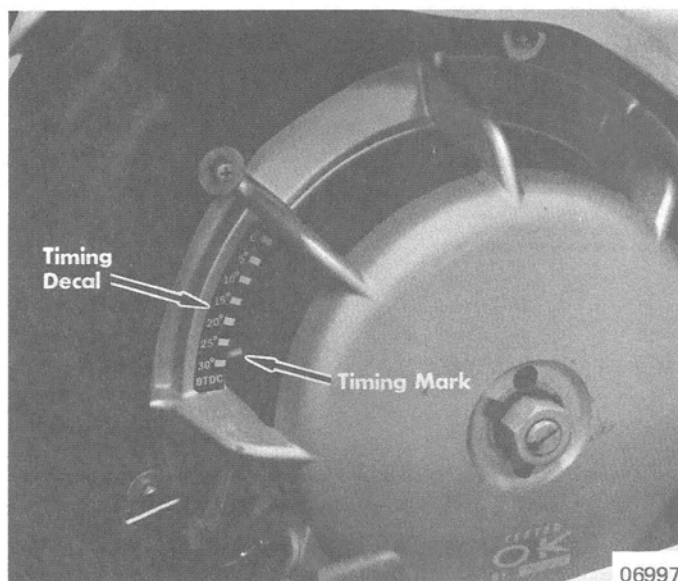

Figure 1. Timing Decal Location
6. Aim timing lite at timing decal (located on fan housing cover). (Figure 1)